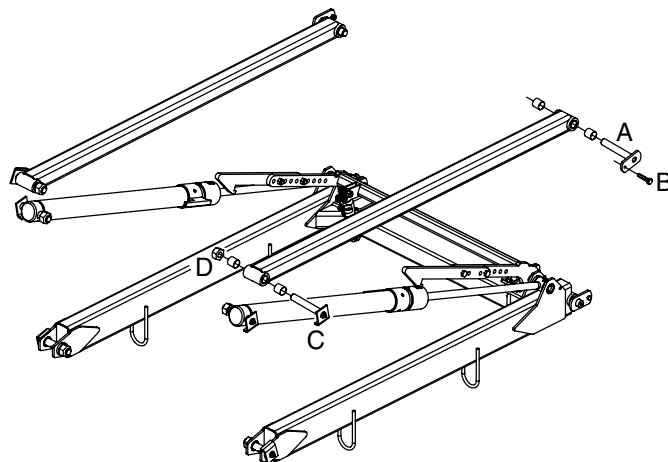

Fig 42
3. Remove pin (A Fig 42) by removing anchor bolt (B Fig 42). Remove pin (C Fig 42) by removing nut (D Fig 42). Remove the upper Paralift™ arm and replace the wear bushings.